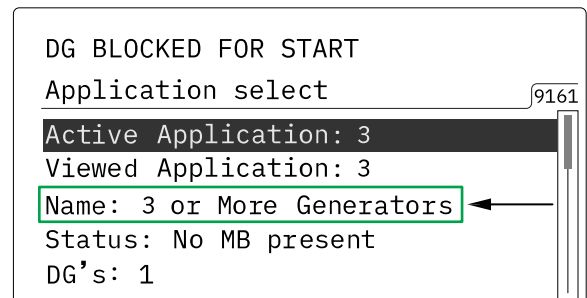

Figure 92. 3 Or More Generators
11. Verify that **Name** is displayed as **3 or More Generators** (Figure 92).